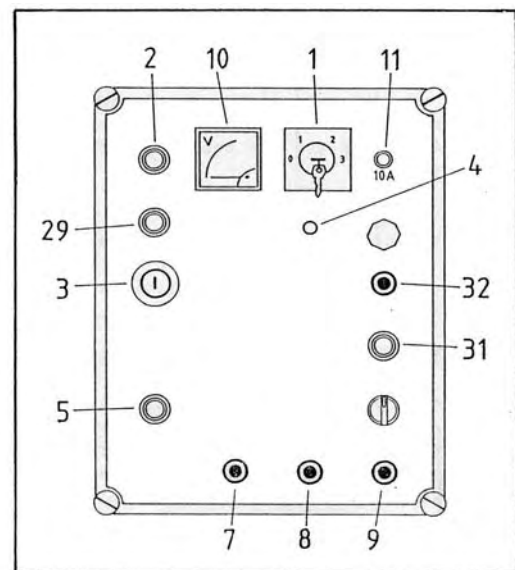

Fig. 1
- A) Controls Mounted on the Chassis (Fig. 1).